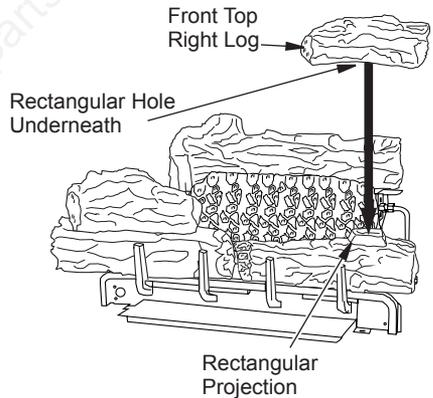

Figure 34 - Installing Top Right Front Log
6. Place top right front log onto front right log. Match the rectangular projection on top of the front right log with the rectangular hole on the bottom of the top right front log as shown in Figure 34. The top right front log will rest on top of the front right log.